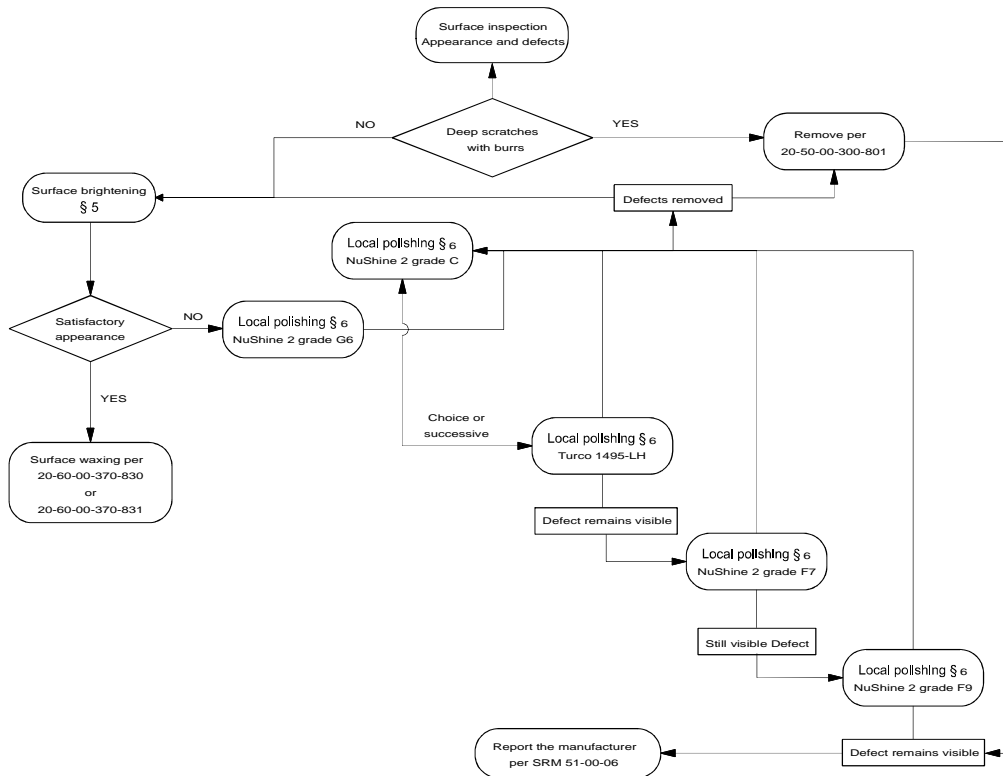

Figure 1: SURFACE INSPECTION AND TREATMENT PROCESS
Refer to **fig. 1**
- C. Inspect the surfaces for condition: (**fig. 1**)